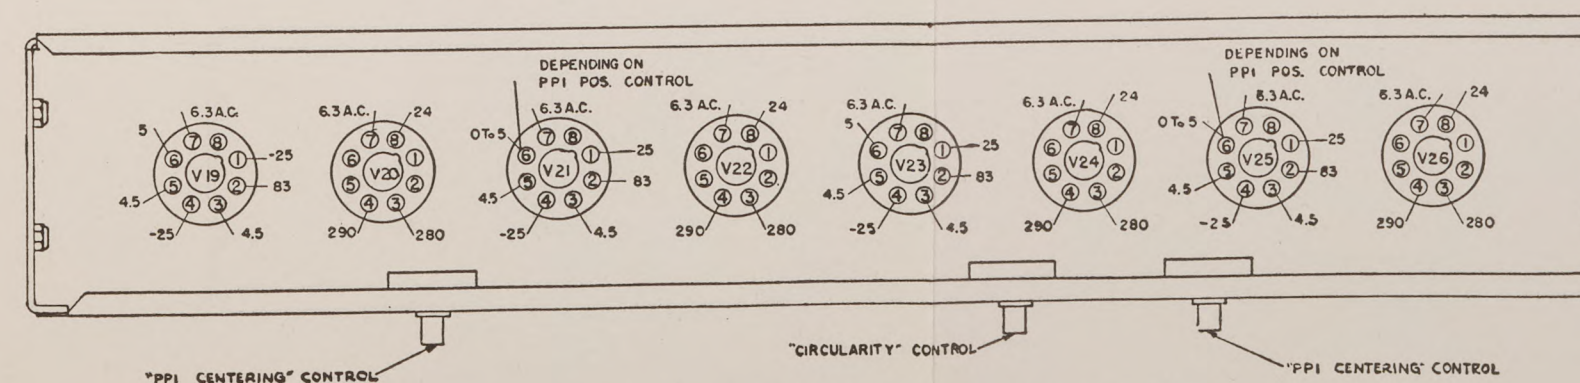

Figure 102. Indicator voltage measurements chart.
(2) **LOW VOLTAGE SUPPLY.** Make voltage checks at key points of the indicator circuit. Place the indicator chassis topside down on the extended edges of the frame. Refer to the indicator voltage diagram, figure 102, and measure the voltages at the basic reference points as indicated below. These points are correspondingly labeled in figure 102 and can be identified easily. These voltages should be within $\pm 10\%$, but a deviation of $\pm 20\%$ should not cause complete failure. It is assumed that the voltage output from the power supply in the receiver unit is satisfactory. Failure in the indicator may be a power failure due to an open or short circuit or a defective part. Refer to figure 102. The measured voltages should be $\pm 10\%$.
(3) **"A" SCOPE SWEEP CIRCUIT** (fig. 33). If analysis up to this point has helped localize the defect to the "A" scope sweep circuit, trace through the circuit until the difficulty is located. It is best to have the functional schematic nearby so that a carefully planned step-by-step, stage-to-stage check can be made. Refer to figures 102 and 101 and check socket voltages and socket resistances of the "A" scope channel. If it is necessary to measure through or across parts, do so. Note that most of the resistors and capacitors are mounted on terminal strips close to the tubes with which they are connected. See figure 100 for layout of components on individual terminal strips.